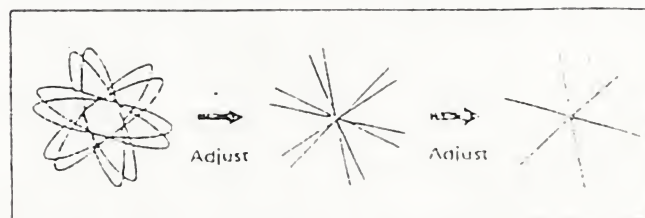

Fig. 2-12
4. Adjust the trimmer capacitor (C324) slightly so that the color becomes unlocked and the loops of the displayed lissajous figure appear on the scope. (Fig. 2-12)